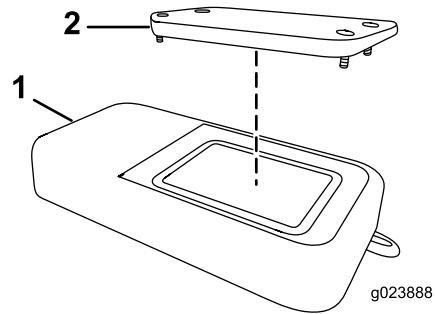

Figure 6
2. Remove the cover (Figure 6).